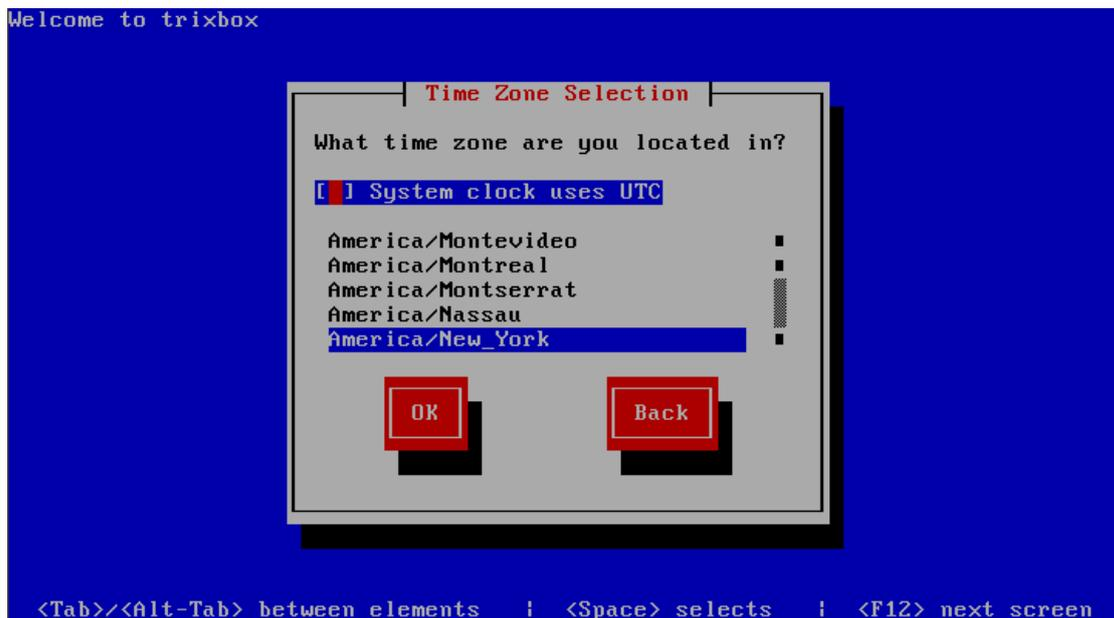

Figure 3
- c) Next, select a time zone according to the real situation. Here we select 'America/New_York' as shown in Figure 3.